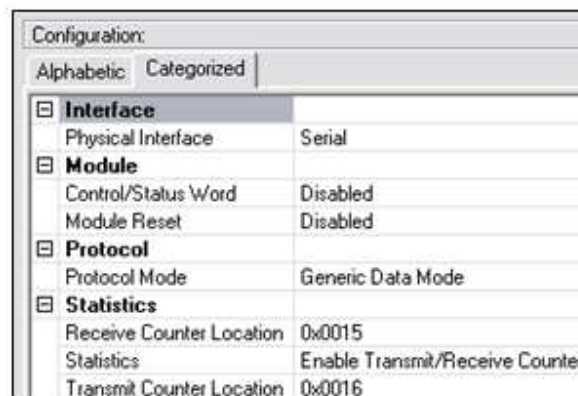

Figure 10 – Communicator part configuration
- 5- Select the **Communicator** part, set the different parameters as shown in figure 10.